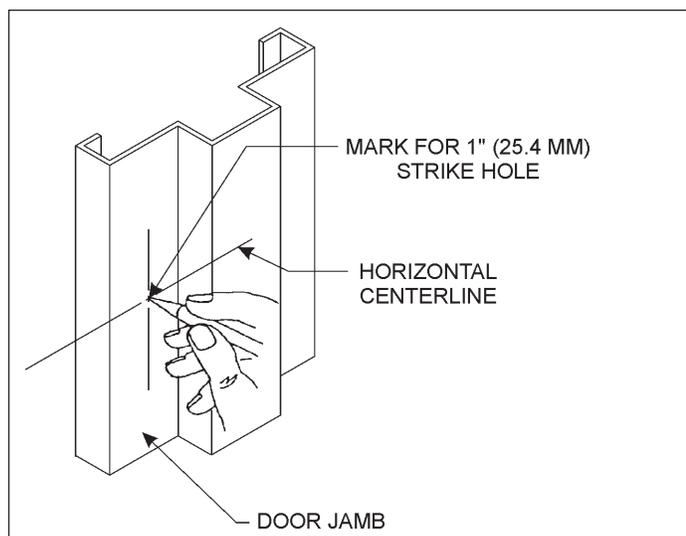

Figure 3
5. Locate and mark the centerline for the 1" (25.4mm) diameter strike hole on the door jamb at the same height as the latchbolt hole. Refer to Figure 3.